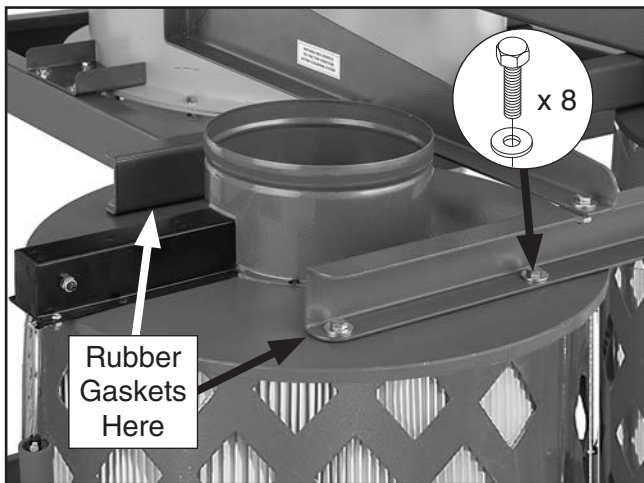

Figure 27. Canister filters mounted to the long support braces.
31. With assistance, position rubber mounting gaskets between filter canisters and long brace supports, and secure canisters with (8) $\frac{5}{16}$ "-18 x $\frac{3}{4}$ " hex bolts and (8) $\frac{5}{16}$ " fender washers (see **Figure 27**).